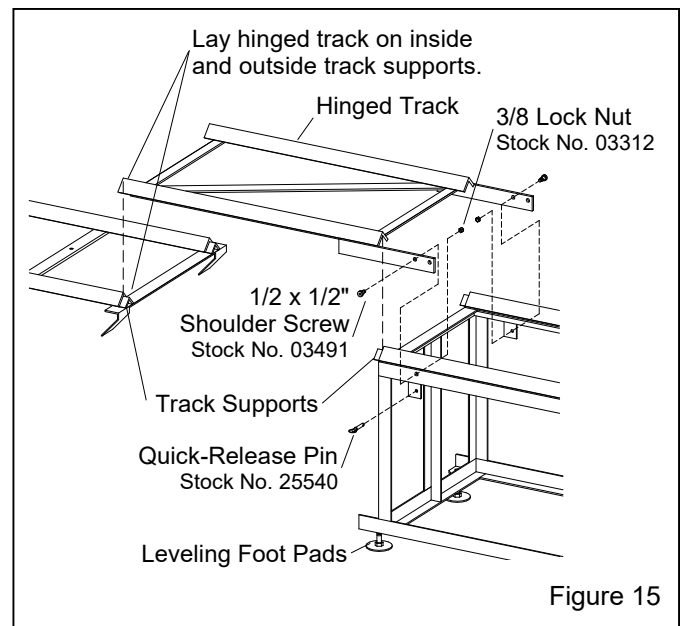

Figure 15
3.4.4 Attach hinged track – Figure 15
3.4.4.1 With the door open, place the hinged track on the inside and outside track supports, as shown in Figure 15. Maneuver the outside track as needed to align the hinge-track bolt holes with the outside-track bolt holes, while making sure hinge track is fully resting (with no gaps) on the track supports.